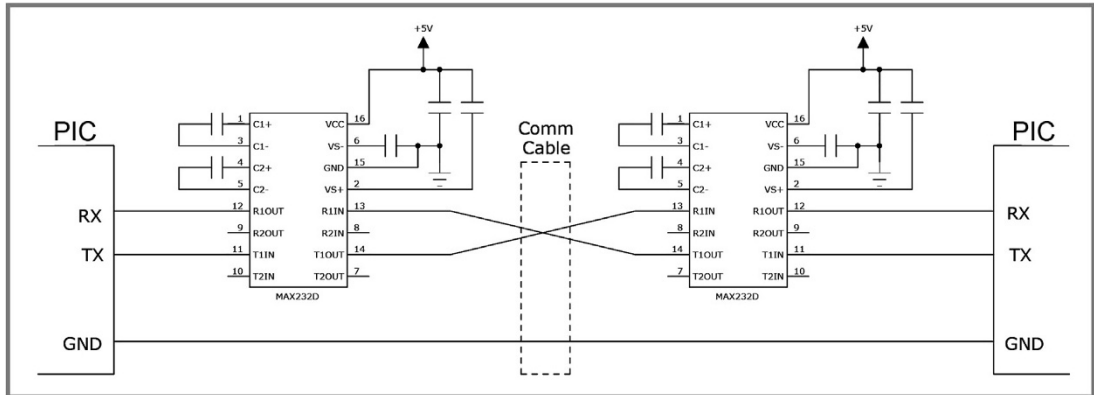

Figure 22.2: Complete PIC® MCU to PIC® MCU RS-232 connection diagram.
For hardware, the RS-232 standard indicates the voltage levels need to be from  $-3$  to  $-25$  V to indicate a mark (1) and from  $+3$  to  $+25$  V for a space (0). The voltage differential is what allows this to work to 50 feet. In reality it will work much farther. These voltages are not PIC®-friendly voltages so a level converter is required. We have one signal for each direction of communication and a common ground (intended for off-board). Figure 22.2 shows how this looks.